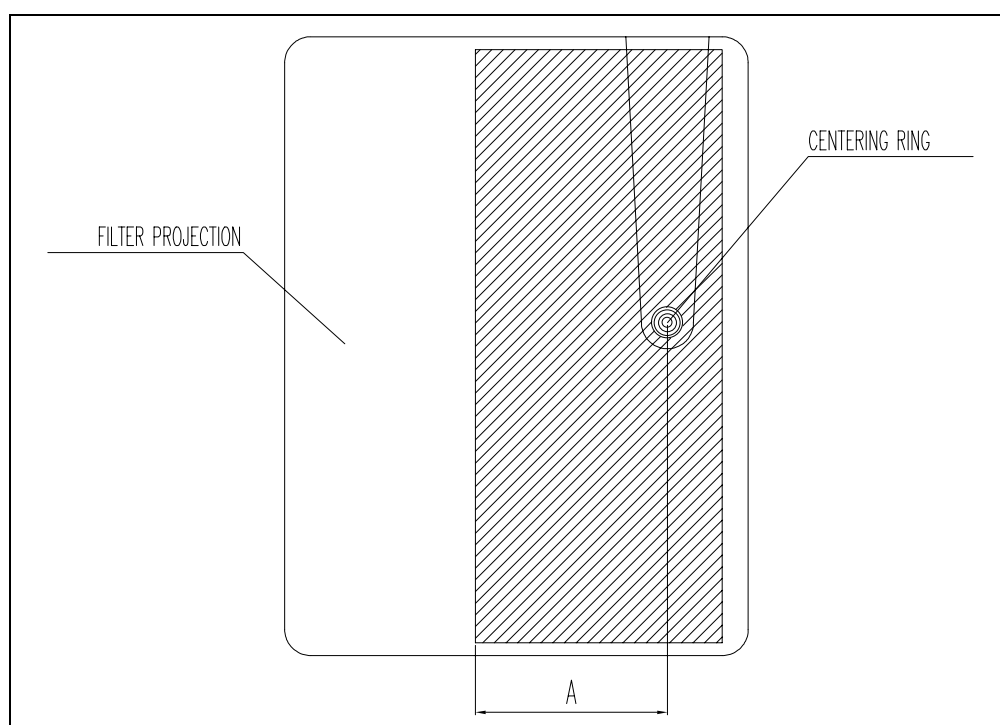

Figure 7-3
6. Develop the film and check the distance "A" (Figure 7-3) between the Soft Tissue Filter (STF) edge and the center of the rings is 60 mm. If not, calculate the algebraic difference between 60 and the measured value and divide the calculate value by 1.3 in order to find the number of correction steps (motor offset) to be stored into the unit.